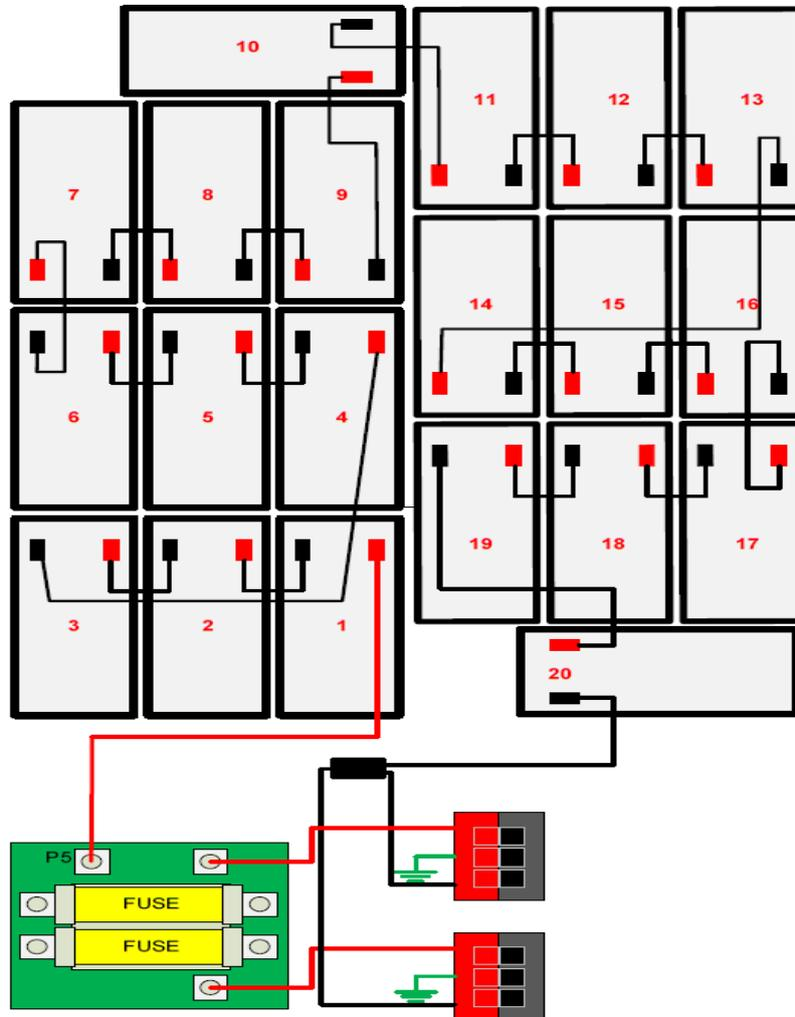

Fig 2-5
2.5). Install the top cover with screws refer to Fig 2-5: